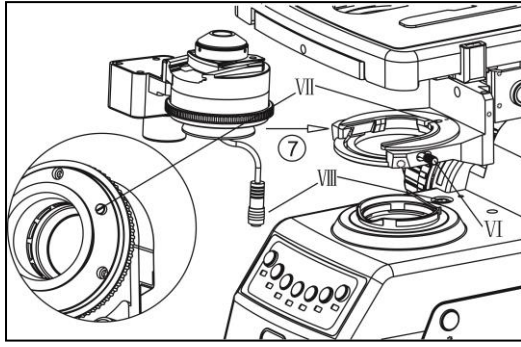

Fig 9
### 4-2-7 Install the Electric Condenser (fig 9)
Drop the small stent to the lowest location, and Inset condenser into the small stent according to the path ⑦ shown in the figure 9, until the VIII bolt piles into the VII slot completely. Then screwing in the VI slot to fasten the condenser according to the shown direction and stick electric condenser